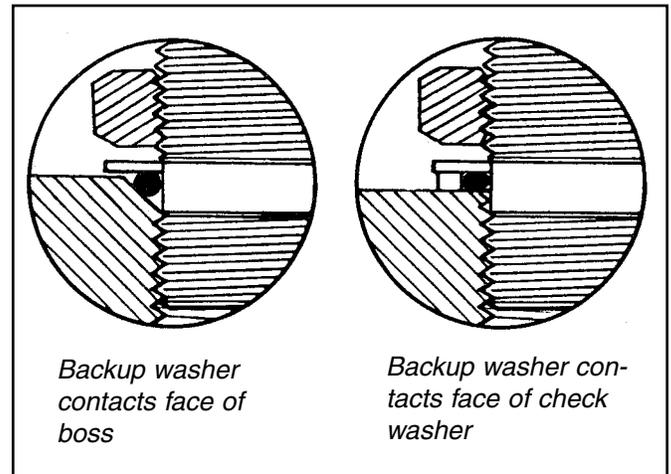

Figure 5.9 Hand Tighten the Fitting
3. Tighten the fitting by hand into the straight thread boss until the back-up washer contacts the face of the boss (or the check washer.) See Figure 5.9.